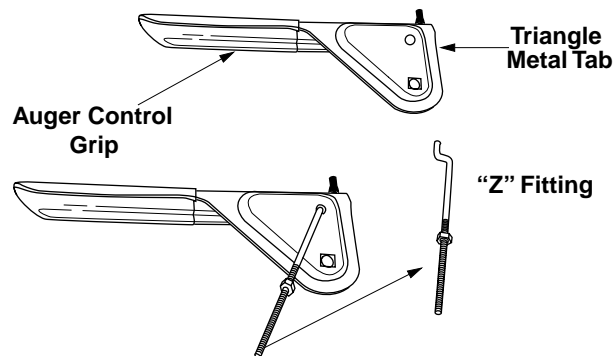

Figure 5
3. Insert curved end of the Z fitting into the top hole in the triangular metal tab on the auger control grip. See Figure 5.